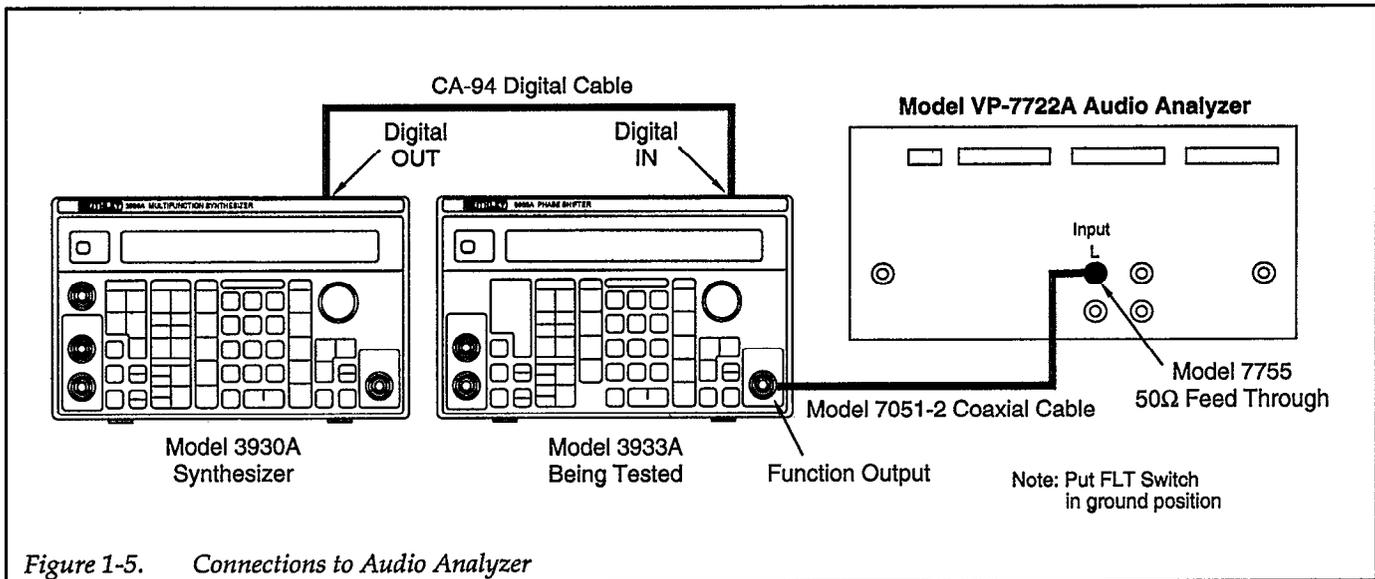

Figure 1-5. Connections to Audio Analyzer
1. Connect the phase shifter to the synthesizer and an audio analyzer as shown in Figure 1-5. Turn on all instruments.